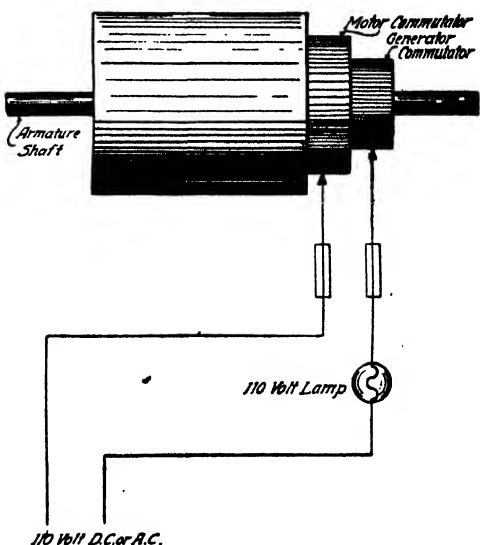
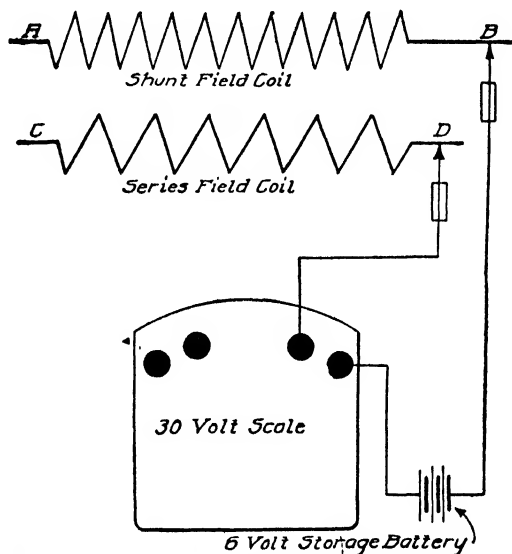

Fig. 265. Diagram for Locating Short-Circuits between Motor and Generator Armature Coils
Fig. 273. Voltmeter Test Diagram for Short-Circuit between Coils
(c) *Short-Circuits between Motor and Generator Armature Coils.* In most cases short-circuits between motor and generator armature coils will decrease the speed of cranking and will cause the armature to continue to run after the engine has been shut down. This test is carried out by simply placing one test point on the generator commutator and the other on the motor commutator. If the lamp lights, it indicates a short-circuit between the generator and motor windings, Fig. 265. This test is
*Short-Circuits between Coils.* The test for short-circuits between coils is similar to that shown in Fig. 265 and naturally applies to all lighting generators where the two windings of the fields are concerned. Place one end, or point, on the terminal of one winding and the other end on the terminal of the other winding, as shown in Fig. 273. If there is no connection between the coils, as should be the case, the voltmeter needle will remain stationary. Any movement of the voltmeter needle indicates a short-circuit and the greater the value of the reading, the more complete is the short-circuit between the two coils.